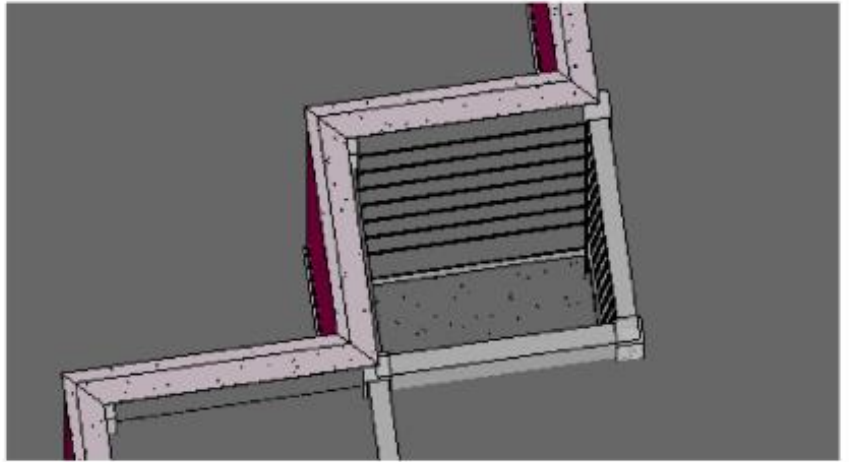

Figure 9–32
15. Open the 3D view and rotate it to display the shaft as it goes through all of the floors, as shown in Figure 9–32.